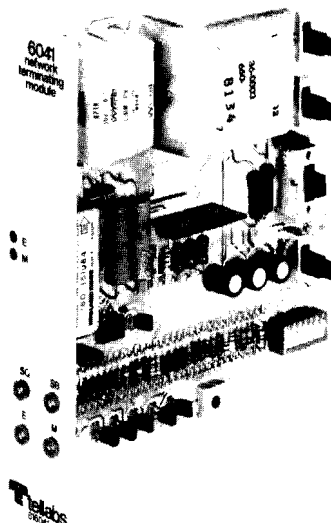

figure 1. 6041 Network Terminating Module
1.01 The Tellabs 6041 Network Terminating Module (figure 1) provides signaling conversion and transmission interface between a 2wire metallic transmission facility and a 2wire PBX trunk. Specifically, the 6041 provides extended-range E&M (DX) signaling over A and B leads derived from the 2wire facility, conversion between that DX signaling and terminal-side E&M signaling, and extension of this E&M signaling toward the 2wire termination. Transmission interface is accomplished via an integral repeat coil. This module is designed to provide DX1 operation with a choice of either Type I or Type II E&M-lead interfacing. When optioned for Type II interfacing, DX2 operation can also be accommodated. As a member of Tellabs' 262U Universal Network Terminating System of modules and enclosures, the 6041 fulfills Registered Facility Interface Codes TL11M and TL12M in applications where the telephone company uses DX signaling over the 2wire facility.